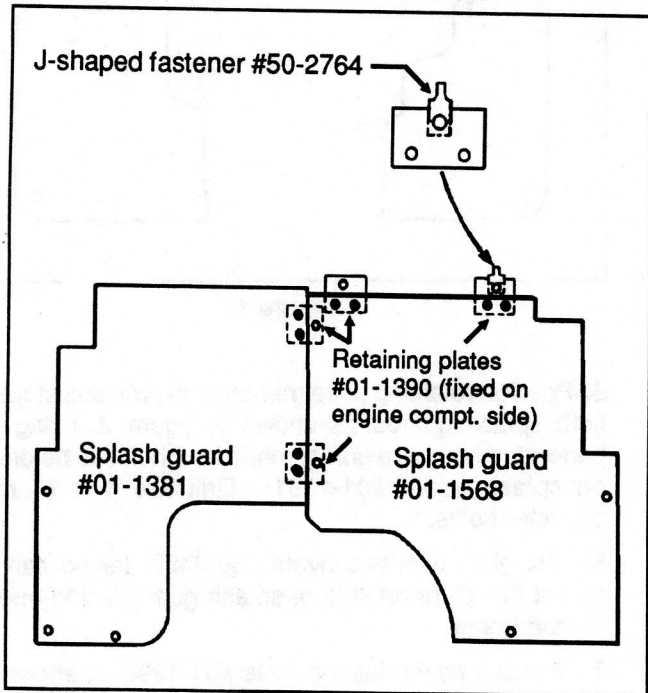

Figure 3
8. Fix two new plates #01-1390 positioned horizontally in top of splash guard #01-1568, taking care to install these plates on side of splash guard facing engine compartment as shown on figure 3.
9. Insert a J-shaped fastener #50-2764 on each retaining plate installed previously. See figure 3 to position fastener correctly on retaining plate.